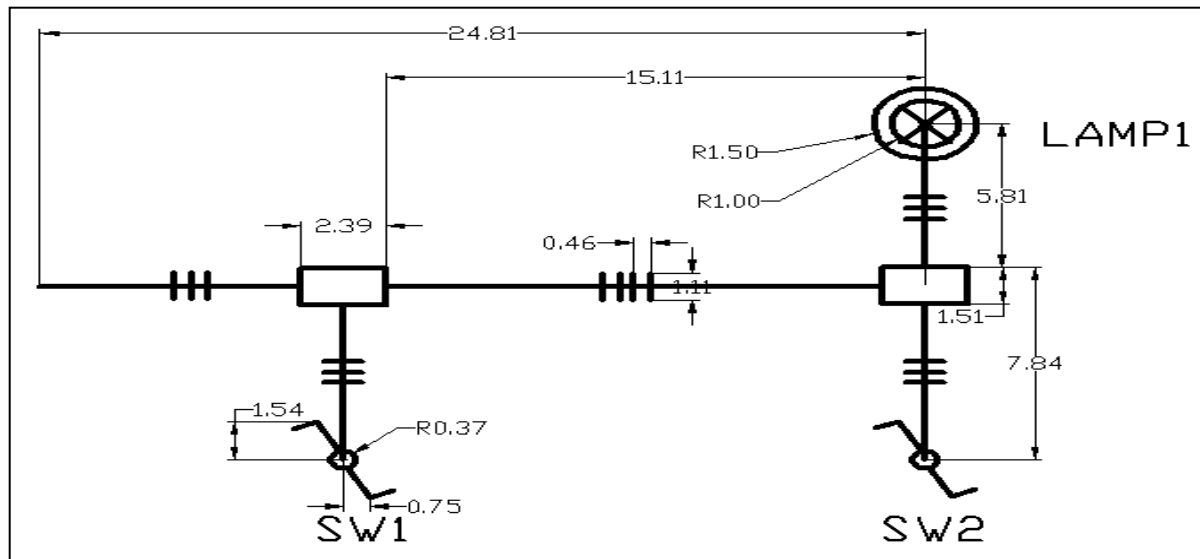

Figure 2.6 Current Flow Diagram of Lamp lighting circuit
4. In the same sheet draw the circuit as in Figure 2.6 which is the Current Flow Diagram of the circuit.